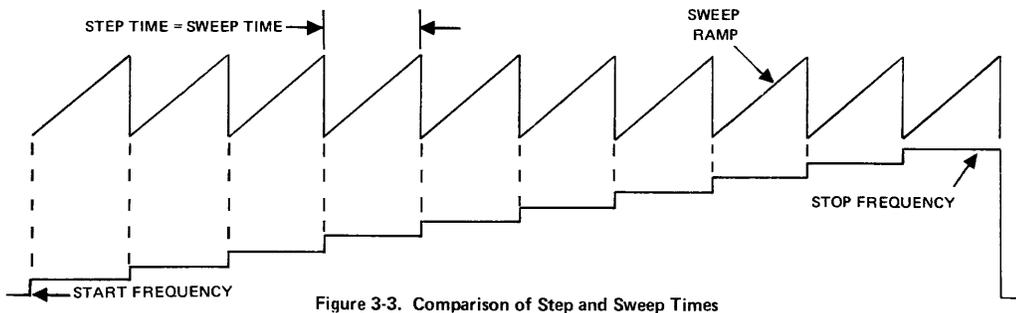

Figure 3-3. Comparison of Step and Sweep Times
voltage ramp becomes an internal VCG input. The start frequency of the generator is determined by the START FREQ dial (2) and the stop frequency is determined by the STOP FREQ dial (3). The SWEEP START and SWEEP STOP settings will hold the output signal at the start and stop frequencies, respectively, while the START FREQ (2) and STOP FREQ (3) dials are adjusted. CONT RAMP allows frequency sweeping to occur at the rate set by (5). TRIG RAMP allows triggering by (11) or (12) of a single sweep. CONT STEP allows 10 equal frequency steps (11 levels), the first level set by (2), the last by (3). Step duration is set by (5) (see figure 3-3). Single step allows triggering by (11) or (12) of a single step in frequency.
(5) SWEEP TIME Control